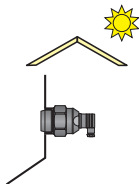

Fig. 3: Shielding cover against direct solar radiation
- The sensor must not be installed in places with direct **solar radiation** and must be protected against weather conditions. In case the installation at places with direct solar radiation is inevitable, it is necessary to mount a **shielding cover** above the sensor (Fig. 3).